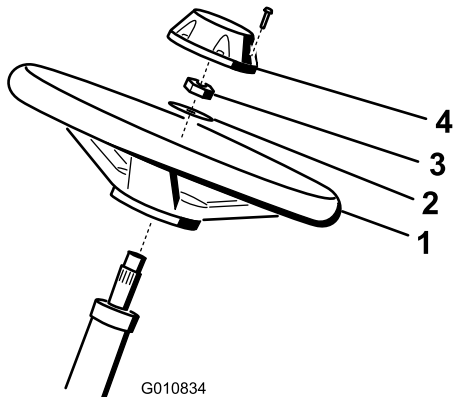

Figure 5
- Slide the steering wheel onto the steering shaft (Figure 5).
- Slide the washer onto the steering shaft (Figure 5).
- Secure the steering wheel to the shaft with a locknut and tighten it to 27 to 35 N·m (20 to 26 ft-lb) (Figure 5).
- Install the cap to the steering wheel and secure it with 6 bolts (Figure 5).